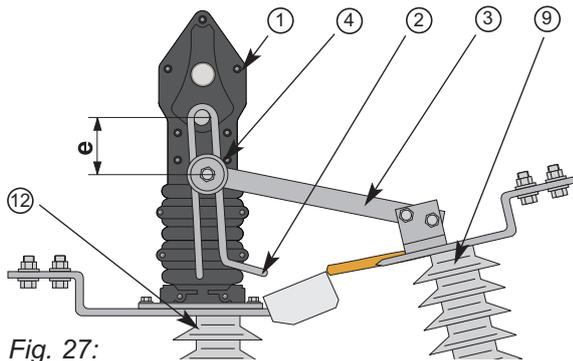

Fig. 27:
In addition to this, gauge "e" of approx. 55 mm (Fig. 27) between the contact plate (4) and the axis of the actuating fork (2) must be observed directly before the switching-on point.
In addition to this, the gauge "e" of approx. 55 mm (Fig. 27) between the contact plate (4) and the axis of the actuating fork (2) must be observed immediately before the switching-on point.